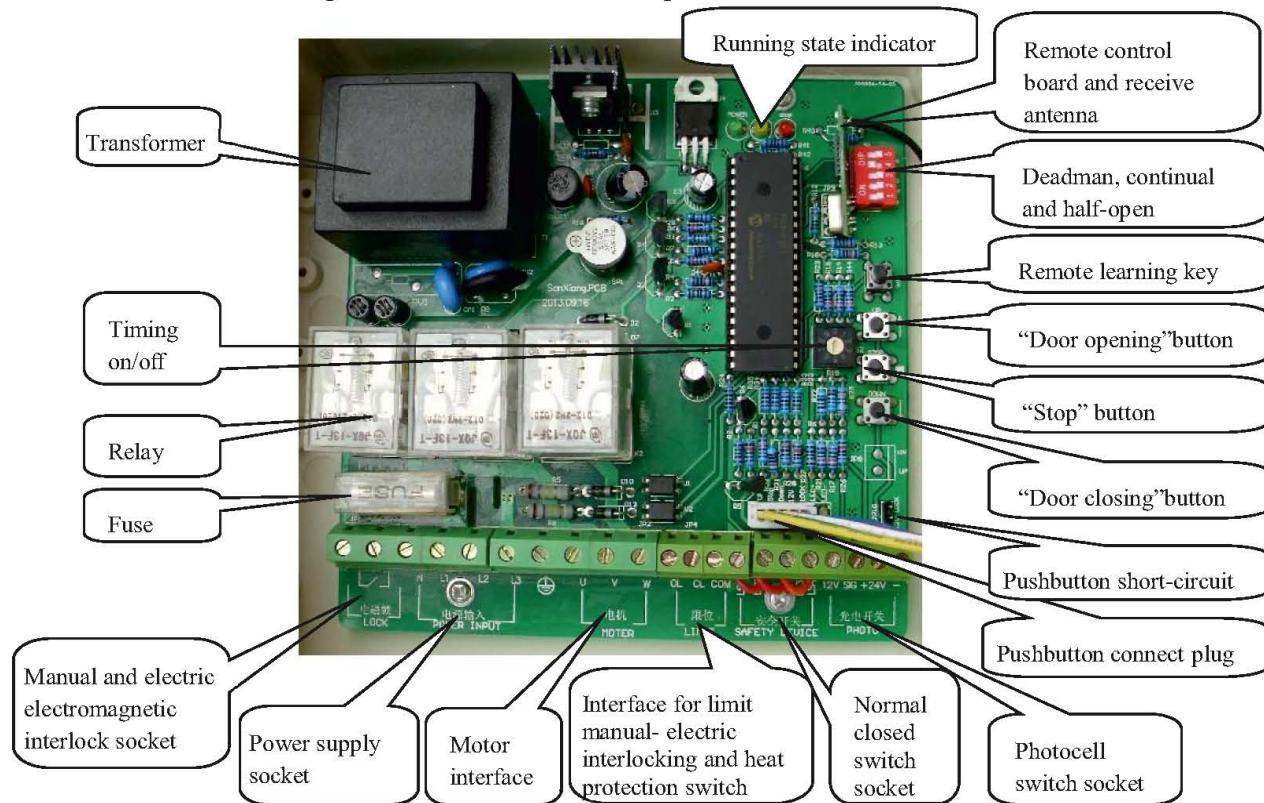
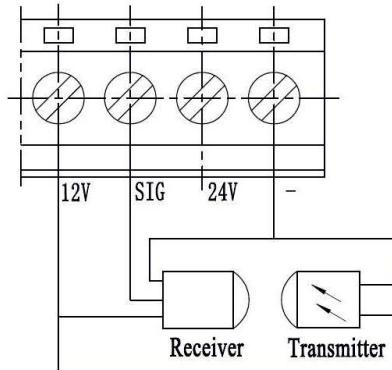
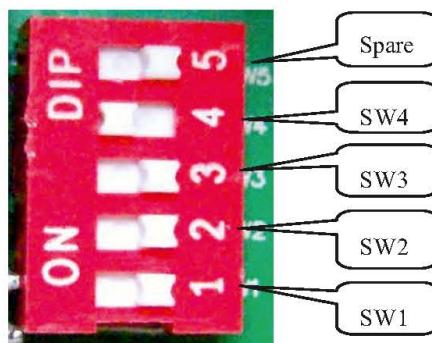
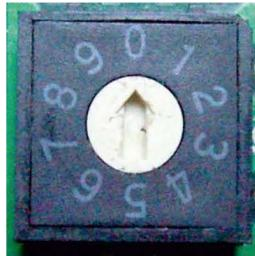

Fig. 7 Map of layout of main function components on DM 300 three-phase electrical controller's circuit board
Fig. 11 Diagram for wiring of photoelectric switch on DM 300 three-phase electrical controller's circuit board
Fig. 12 Diagram of switches for DM 300 three-phase electrical controller circuit board's Deadman, linkage and half-open functions
Fig. 13 Diagram of switch for timing closing function on DM 300 three-phase electrical controller circuit board
3.2.2.2 The "upward", "stop", "downward" and "emergency stop" buttons on control circuit board to control the drive's operation, the "button short-circuit jumper" and control panel's buttons can be switched, for installation and debugging (Fig. 7 and Fig. 9).
3.2.2.3 Control circuit board can define the drive's operation status of "Deadman", "linkage" "half-linkage (between upper and lower limit, the same below)", "full-linkage" at "upward" or "downward" mode (Fig. 7 and Fig. 12).
3.2.2.4 "Delayed automatic closing" function allows 9 grades, respectively 5, 10, 20, 25, 50, 100, 120, 180, 240 sec. Upon the termination of due delay time, the drive will automatically run to lower limit and stop, when "Delayed automatic closing" function is turned off, the "door closing" action will be manually implemented via "downstream" button (Fig. 7 and Fig. 13).
3.2.2.5 When receiving the drive's running limit on/off signals, control the drive and stop the running respectively, in the upper and lower limit switches' action (Fig. 7 and Fig. 8).
3.2.2.6 When receiving the drive's manual and electric interlocking protection on/off signals, manually operating the drive for "upward" and "downward" movement, manual and electric interlocking protection switch in the loop falls into short-circuit, and the drive can not be electrically operated, the circuit can be controlled in no manual operation state, and the drive can be electrically operated (Fig. 7 and Fig. 8).
3.2.2.7 When the drive is electrically controlled, direct-acting tubular electromagnet controlling manual and electric interlocking, shielding manual operation, when electrical operation stops, tubular electromagnet is power off, and the drive can be manually operated (Fig. 7 and Fig. 8).
3.2.2.8 When receiving the motor's thermal protection switch signals, and the thermal protection switch falls into short-circuit, electrical operation stops, when thermal protection is restored, electrical operation can recover by pressing switches (Fig. 7 and Fig. 8).
3.2.2.9 Can connect and respectively receive the external plug-in normally closed type switch(including anti crushing protection, door edge punching bottom protection, door-in-door protection, wire rope breaking protection, torsion spring break protection, etc.)signals, control drive switching circuit state to stop running(Fig.7, Fig.8 and Fig.10).
3.2.2.10 Can connect and respectively receive the external 12VDC or 24VDC normally open type photoelectric sensor (such as infrared) safety protection switch signals, the drive running should be stopped, then immediately ascend to “upper limit” or preset “half-linkage” position and then stop(Fig.7, Fig.18 and Fig.11).
3.2.2.11 Circuit board is provided with remote control function, to receive remote control transmitter signals and accordingly control the drive for "upward", "stop", "downward" status, with necessary principle of panel switch's priority in remote control (Fig. 7 and Fig. 14).
3.2.2.13 Running state indicator lamp is provided (Fig. 7 and 3.2.5). **3.2.3**
- ②. in parallel The open limit switch (for door opening), and close limit switch (for door closing) was in parallel, they in series with the electric / manual interlock switch and over heat protection switch, which have been wired before the door opener is delivered from the factory. When connect the wire, please plug the 3 outgoing line's termina into the terminal shown in Fig. 7 and Fig. 8. Electric / manual interlock switch is located in the manual device's cover, when manual operation state is started, the interlock switch is touched, LED 2 (yellow) lights, and electric operation buttons become invalid.
- ③. When the door opener delivered out from factory, the motor, ground connection and electric/ manual interlock total 3 group connecting line's main motor terminal has been connected, when the customer installation & wiring in the control box, should separately connecting the motor, ground connection and electric/ manual interlock connection's outgoing line's terminal into the terminal shown in Fig.7 and Fig.8.
⑤. Wiring of photoelectric safety protection switch: circuit board provides two power supply interfaces (DC12V and DC24V) which can be selected by users according to the working voltage of photoelectric switch (such as the wiring at DC12V shown in Fig. 11), the SIG terminal is photoelectric switch's signal entrance, when the door body is falling, if the interface receives DC voltage signal (12V or 24V), the door body immediately stops falling, then immediately lifts upward to the upper limit.
Function selection (Fig. 12):
selection (Fig. 13):
The indicator is installed on the control box's circuit board (as is shown in Fig. 7):